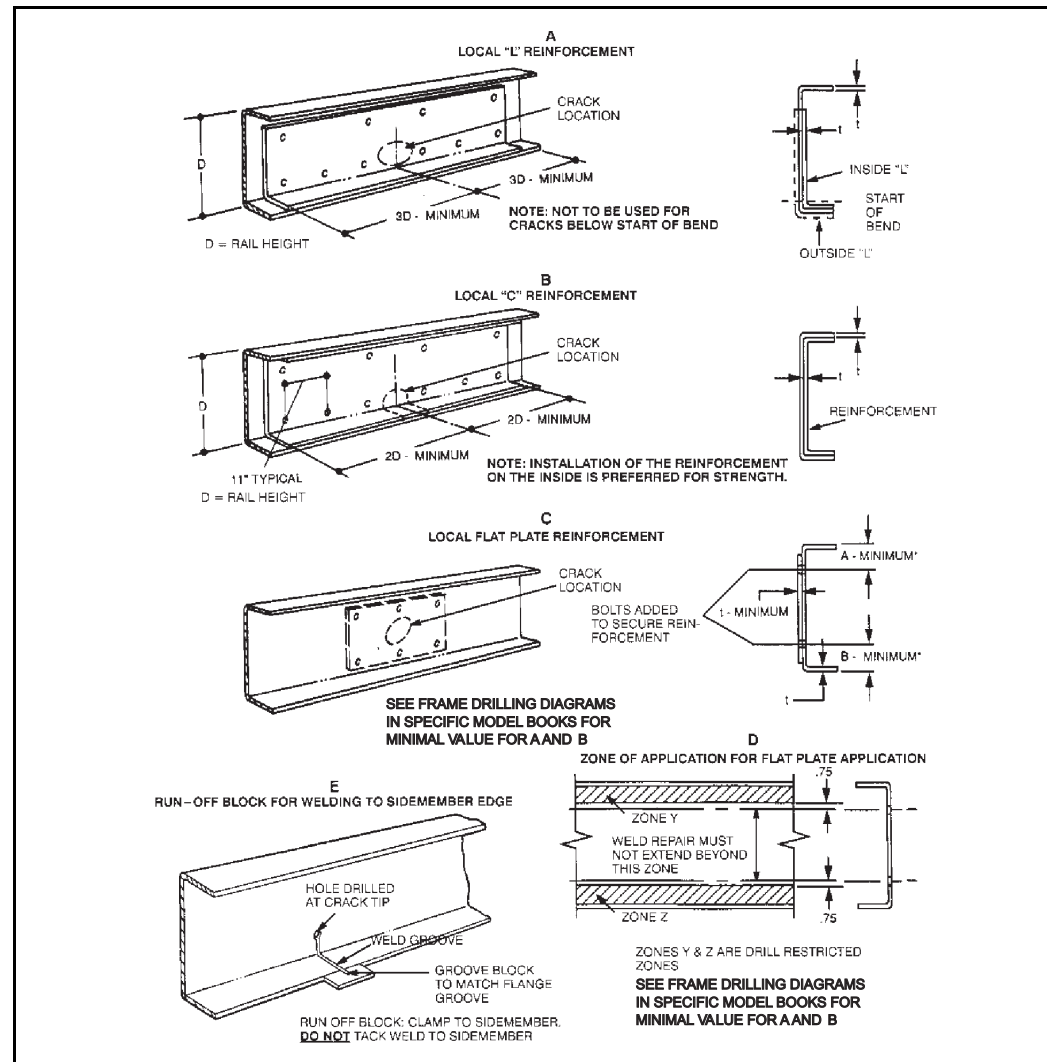

Figure 2.5 Reinforcement Application
THE TYPE, LENGTH, MATERIAL AND ATTACHMENT TECHNIQUES FOR REINFORCEMENTS VARY WITH THE TYPE AND LOCATION OF THE CRACK AND WITH THE LOADING CONDITIONS ASSOCIATED WITH THE CRACK. It is not practical to give specific recommendations for all cases of frame cracking, therefore the various types of reinforcements are identified with general descriptions of their applications and installation procedures. To aid in making the distinctions between the more critical flange area and the less critical web area, critical zones are defined (Figure 2.5 D)
Steps 1 and 2 above also apply to the full length “L” reinforcements available from International. All of these are the inverted “L” type and are designed for installation on the outside of the sidemember section (except 9000 Series) (Figure 2.5 A).
This type of reinforcement must be custom-fabricated either by cutting lengths from “full length” reinforcements or by forming from flat stock (Figure 2.5 B).
2. Recommended dimensional data and attachment specifications for a typical installation (Figure 2.5 B). Holes drilled for the attachment must be within the frame drilling guidelines in the specific model body builder book.
This type of reinforcement is recommended for cases in which the weld repair is confined to the web of the section but extends beyond the application zone of the flat plate reinforcements (Figure 2.5 D).
1. A typical installation for an “L” reinforcement on the inside of a sidemember section along with minimum recommended dimensions (Figure 2.5 A).
This reinforcement is intended for the less critical, web portion of the sidemember section where typical cracking is due to local stresses which tend to “diaphragm” or “dish” the web without creating appreciable stresses for overall bending of the section. Typical crack patterns radiate out from the edge of a mounting bracket or crossmember or from a hole in the web. Cracks which radiate from a web hole occupied by a fastener are frequently an indication of a defective joint, whether by the loosening of the fastener or poor joint design (Figure 2.5 C).
The flat plate reinforcements are recommended for weld repairs in which the weld does not extend beyond the zone (Figure 2.5 D).
1. A typical installation (Figure 2.5 C) shows the length and height of the plate will vary with the size of the weld repair area. In general it should be such that it will accommodate an array of reinforcement attachment bolts at a typical 3 to 5 inch (76 to 127 mm) spacing all around the weld repair area.